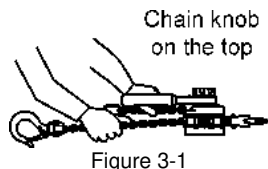
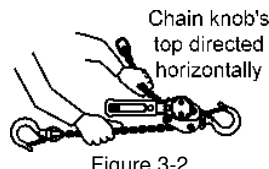

Figure 3-1
Figure 3-2
3.2.5 Free chaining with the chain knob on the top as shown in Figure 3.1 may cause a braking force. In this case, direct the top of the knob towards the horizontal side as shown in Figure 3.2 in free-chaining mode.